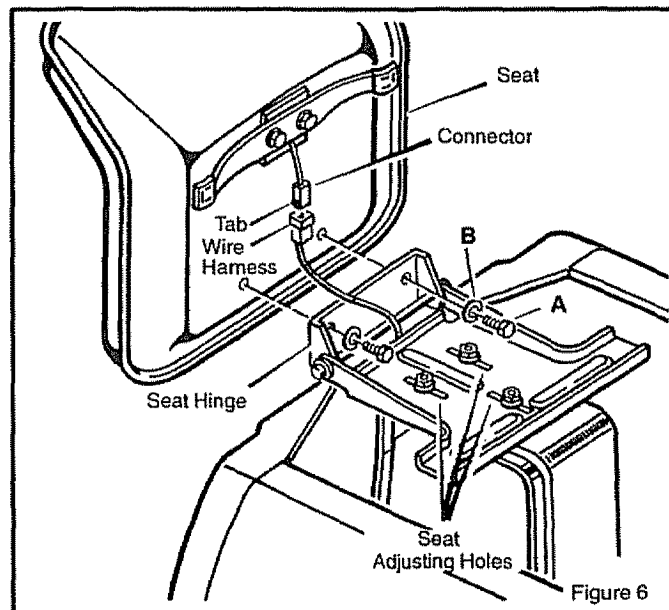

Figure 6
4. Align the holes in the **seat hinge** to the holes in the **seat** (Figure 6). Fasten the **seat** to the **seat hinge** with the fasteners as shown. Tighten the fasteners.